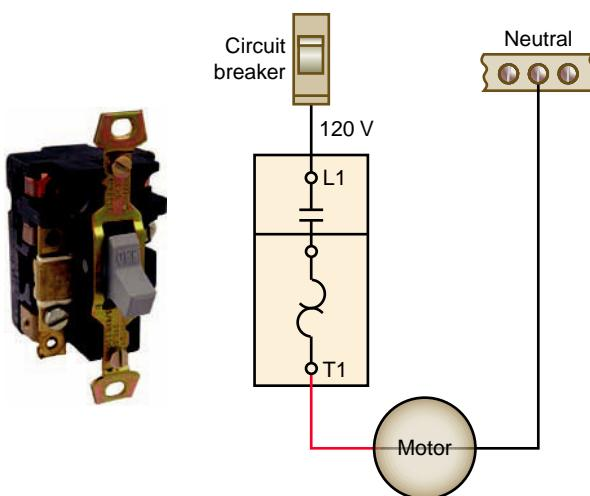

Figure 8-9 Single-pole fractional horsepower manual starter.
Manual starters for fractional-horsepower, single-phase motors are found in a variety of residential, commercial, and industrial applications. Figure 8-9 shows a single-pole fractional horsepower manual motor starter consisting of a manually operated on/off snap-action switch with overload protection. When the switch is moved to the on or start position, the motor is connected directly across the line and in series with the starter contact and the thermal overload (OL) protection device. As more current flows through the circuit, the temperature of the thermal overload rises, and at a predetermined temperature point, the device actuates to open the contact. When an overload is sensed, the starter handle automatically moves to the center position to signify that the contacts have opened because of overload and the motor is no longer operating. The starter contacts cannot